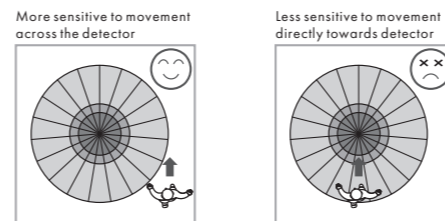

FIG. 4
3.1.2.3 Pay attention to the walking direction in the test proceeding (See FIG. 4).